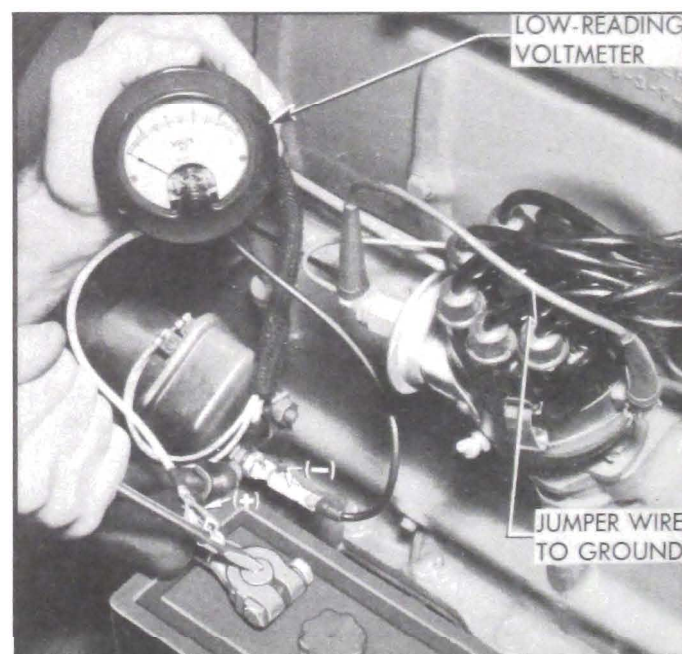

Figure 10-8—Testing Battery Cables and Connections with Voltmeter
2. Connect negative (–) lead of voltmeter to the battery terminal stud on cranking motor solenoid switch. Attach a prod to positive (+) lead of voltmeter and apply the prod to *center* of battery positive (+) post. See figure 10-8.